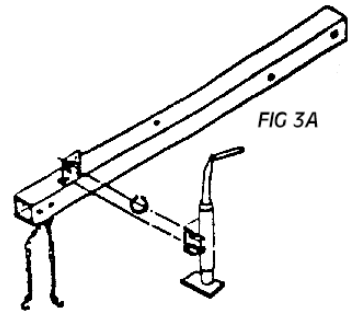

FIG 3A
7. Attach tongue jack with retaining ring as shown in Fig. 3A.